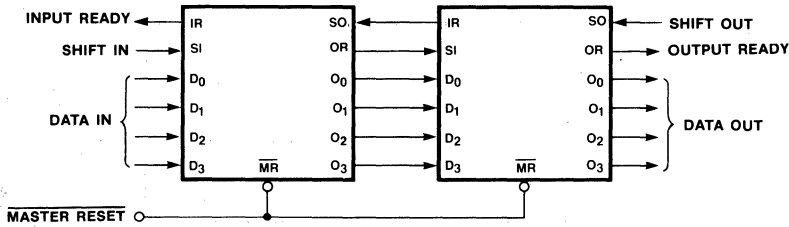

Figure 11. Cascading FIFOs to Form 128x4 FIFO with C5/C67401A/1
After power up the Master Reset is pulsed low (Fig. 11) to prepare the FIFO to accept data in the first location. When Input Ready (IR) is HIGH the location is ready to accept data from the D_x inputs. Data then present at the data inputs is entered into the first location when the Shift In (SI) is brought HIGH. A SI HIGH signal causes the IR to go LOW. Data remains at the first location until SI is brought LOW. When SI is brought LOW and the FIFO is not full, IR will go HIGH, indicating that more room is available. Simultaneously, data will propagate to the second location and continue shifting until it reaches the output stage or a full location. The first word is present at the outputs before a shift out is applied. If the memory is full, IR will remain LOW.